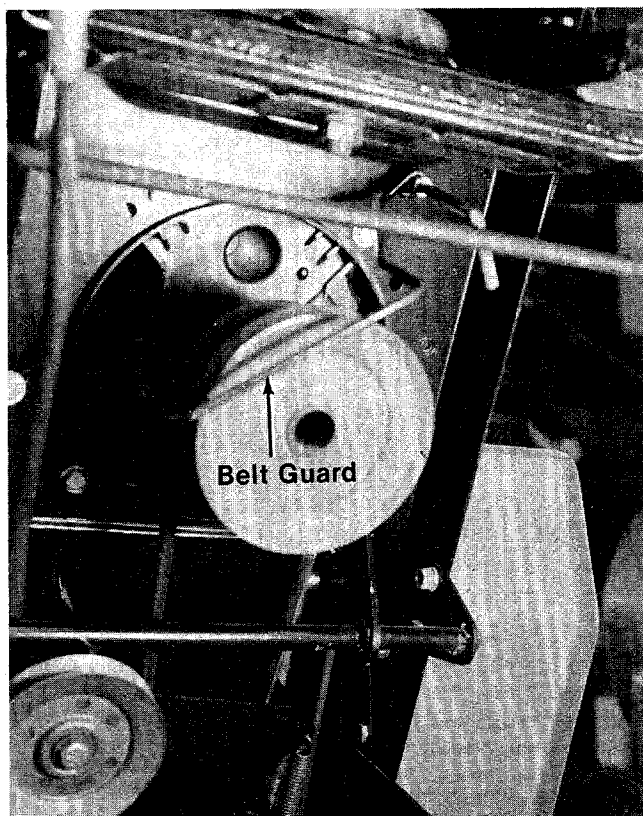

FIGURE 22.
4. Swing the belt guard forward towards the front of the tractor. (See figure 22.)